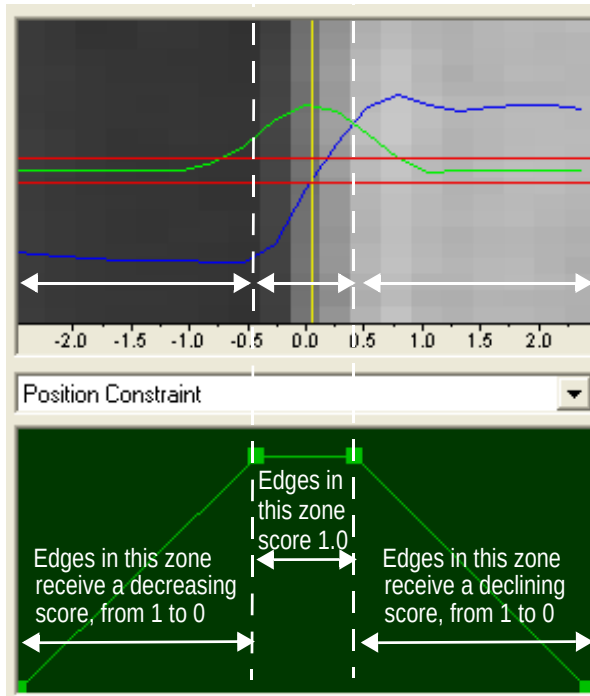

Figure 112 Position Constraint Histogram
2. Use the mouse to drag the handles in the histogram editor of the selected constraint. Set the Edge Position Constraint histogram as illustrated in Figure 112.